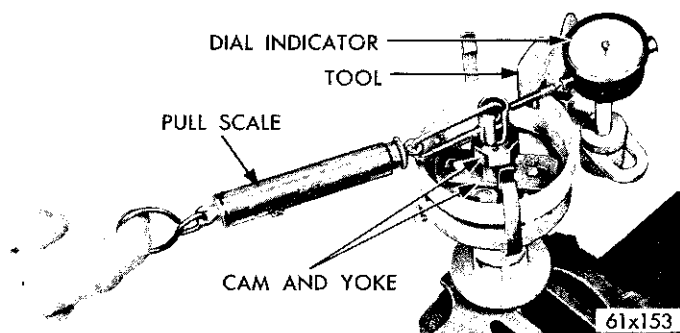

Fig. 49—Checking Distributor Shaft Side Play
(7) Clamp the ribbed section of the distributor housing in a vise equipped with soft jaws and attach the dial indicator to the body of the distributor (Fig. 49) with indicator plunger resting against the distributor cam sleeve.
(8) Hook the spring scale in the bore of the cam